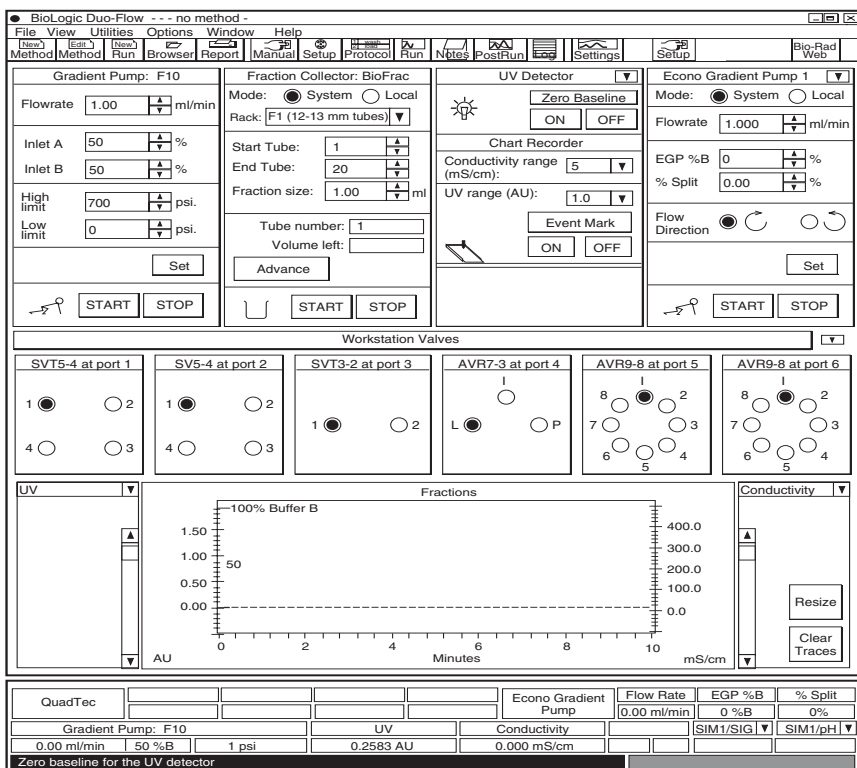

Fig. 1. Manual Control Screen with UV detector
When the DuoFlow system is turned on, the Manual screen is displayed (see Figures 1 and 2). This screen displays instrument control panels that provide direct control of the pumps, valves, fraction collector, UV detector, QuadTec™ UV/Vis detector, and Econo™ Gradient Pump. The arrow button in the upper right corner of the detector control panel toggles between the UV and QuadTec detector control panels. Only those instruments connected to the system will be displayed.
When in System mode, the fraction collector control panel will show fields for Rack type, Start tube, End tube, Fraction size, Tube number, Volume left, a toggle button for Start and Stop, and a button for Advance (see Figures 1 and 2).
- a. The UV lamp automatically turns on when you turn on power to the workstation. The UV lamp can be turned on and off by clicking the On and Off buttons from the UV detector control panel on the Manual screen (see Figure 1). Check that the lamp is on; the mercury lamp requires approximately 30 minutes to warm up.
A feature of the Manual screen is its ability to display up to eight traces of a chromatogram; including UV/Vis, pH, conductivity, %Buffer B, and pressure traces, over a 10-minute interval. This is useful during column equilibration. The chromatogram window is displayed at the bottom of the screen, under the valve control panel (See Figures 1 and 2). Features of the chromatogram window include: